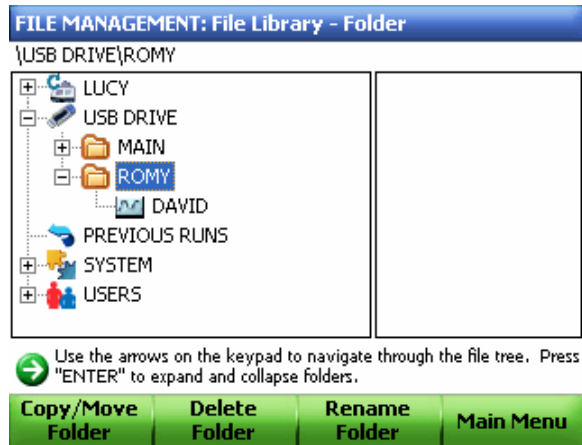

Figure 86. Select the folder to be renamed.
3. Select **Rename Folder** (Figure 86).